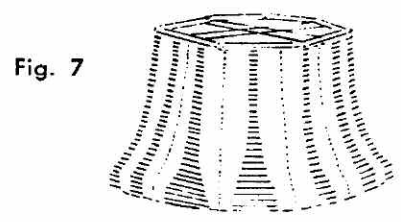

Fig. 7
7. Now proceed to flare the shade to the outside, gradually, for the next 24 layers. (Fig. 7).